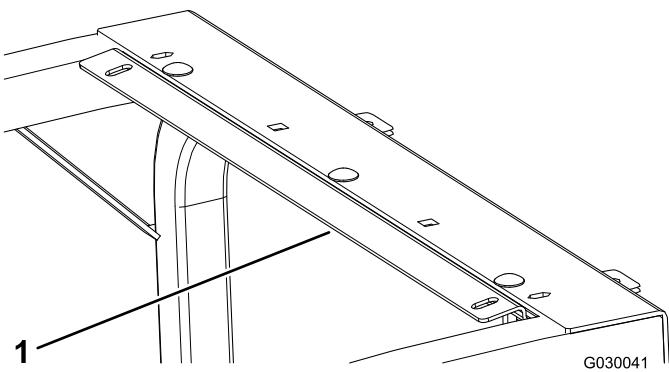

Figure 2
2. Existing carriage bolt (3)
3. Existing flange nut (3)
4. Position the rear bracket so that the 3 existing carriage bolts fit into the 3 slots in the bracket (Figure 2).